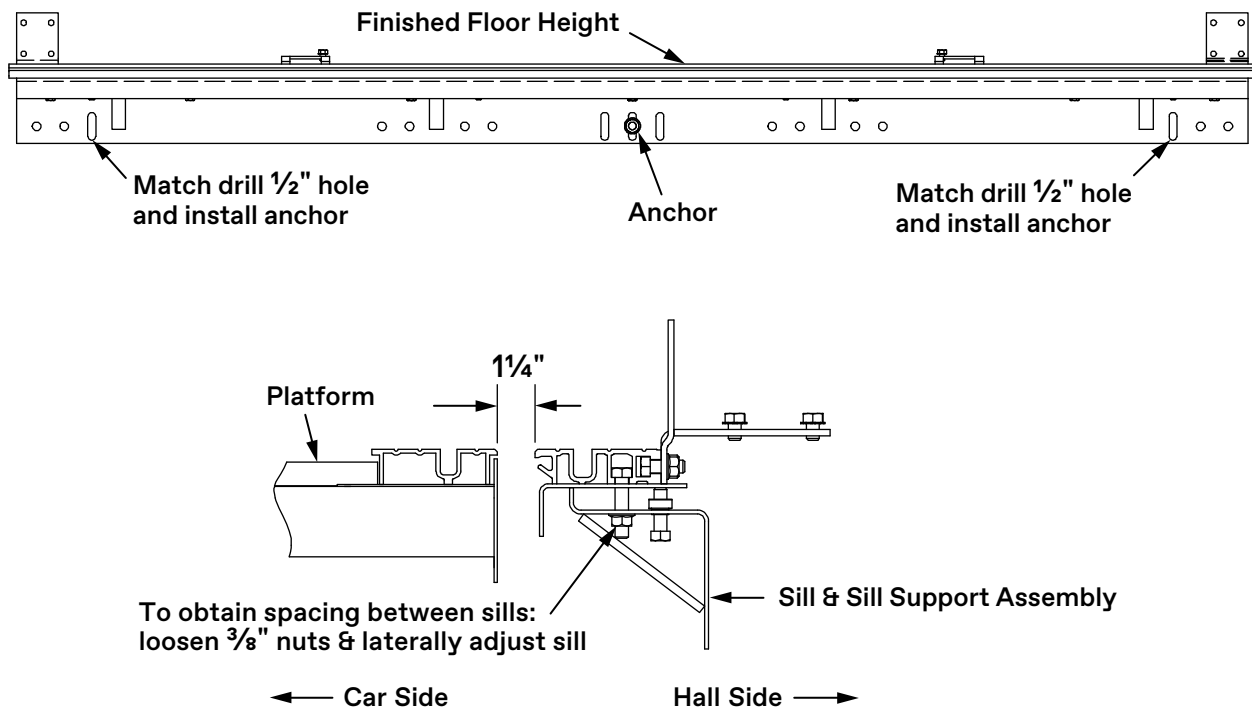

Figure 3 - Sill and Sill Support Mounting
1. Slide the middle slot of the sill assembly onto the anchor in the wall. Screw the nut onto the anchor, and hand tighten. See Figure 3.